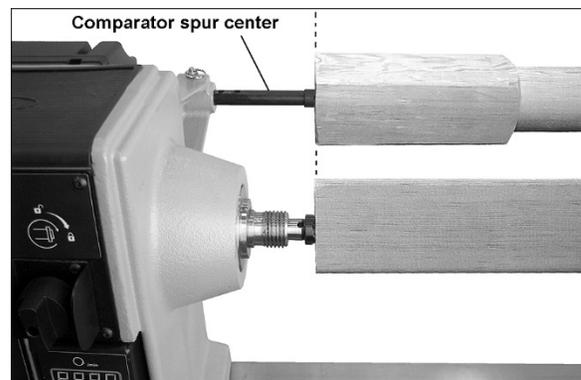

Figure 8-6: comparator
1. Install comparator spur center into guard bracket, by lifting up on plunger and inserting comparator spur center until its point is about even with point of spur center in headstock spindle. See Figure 8-6. The plunger in the bracket must engage one of the holes in the comparator center at this position.